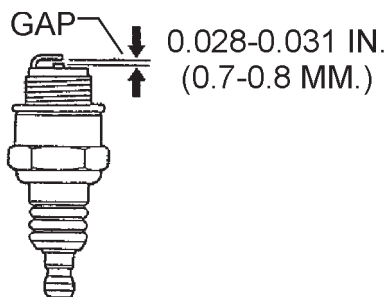

Figure 16. Spark Plug Gap
3. Remove and clean the spark plug (Figure 16).